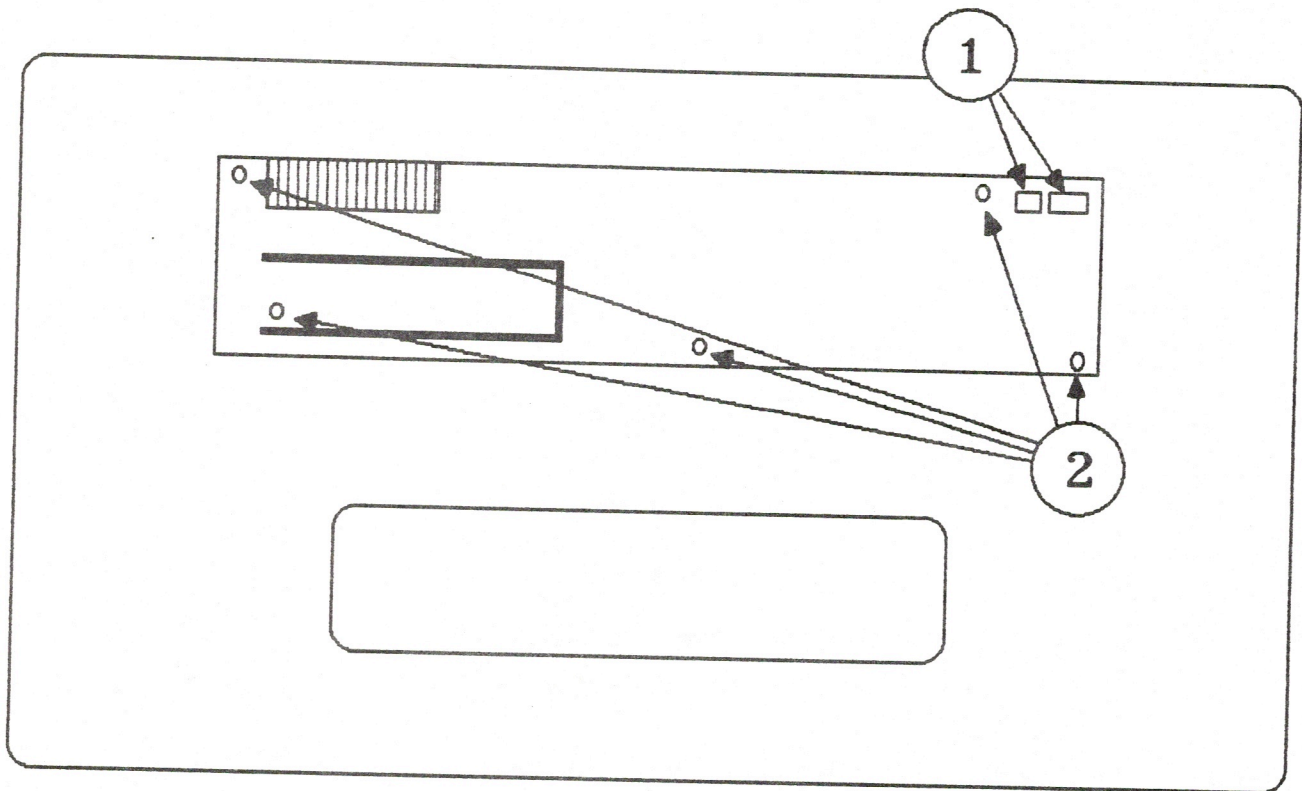

FIGURE 6
- \*3. Disconnect P-1 and P-2 from the right side of the power supply PCB (see Figure 6, #1).
- \*4. Five white plastic peg fasteners hold the board down on early versions; on later printers, some of the peg fasteners are replaced by screws. If screws are present, remove them first. (See Figure 6, #2, for positions.)
- \*3. Attach connectors P-1 and P-2 (on right side of power supply PCB) (see Figure 6, #1)